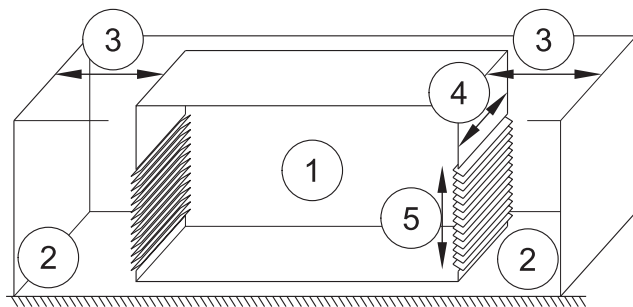

Figure 47
- Ensure there is sufficient space in front and behind of any exhaust or inlet vent (see figure 47, this includes:
Figure 47 shows the basic considerations for allowing the genset to cool and breath.